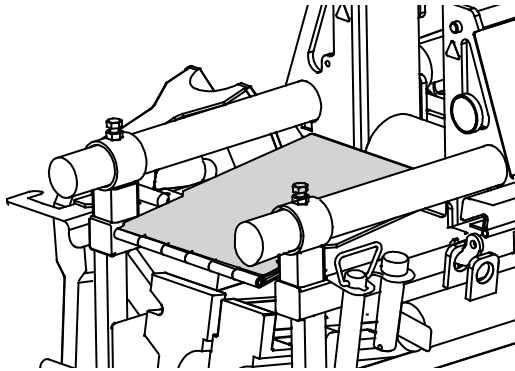

Figure 2
5. Swing the forward tray up until it rests on the carriage. (Fig. 2)